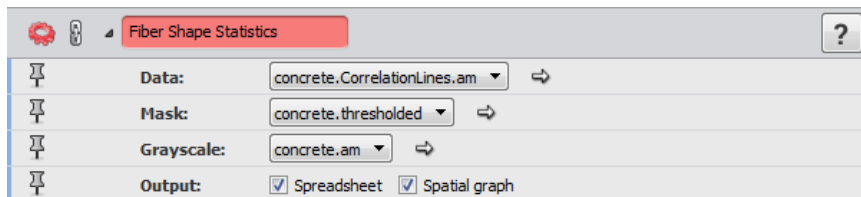

Figure 12.23: Parameter Settings of the *Fiber Shape Statistics* Module
3. Attach a *Fiber Shape Statistics* module to `concrete.CorrelationLines.am` and set the parameters as shown in Figure 12.23 and click **Apply**.